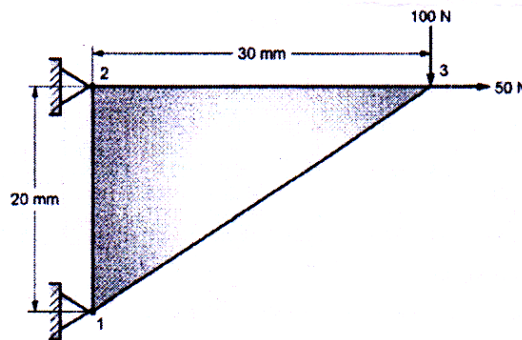

Fig.6
- Q6)** A triangular plate subjected to various loads as shown in fig.6. The modulus of elasticity is 70×10^3 N/mm², the poisson's ratio is 0.3 and thickness of plate is 10 mm. Model the plate with CST element and determine Element stiffness matrix and nodal displacements. [17]